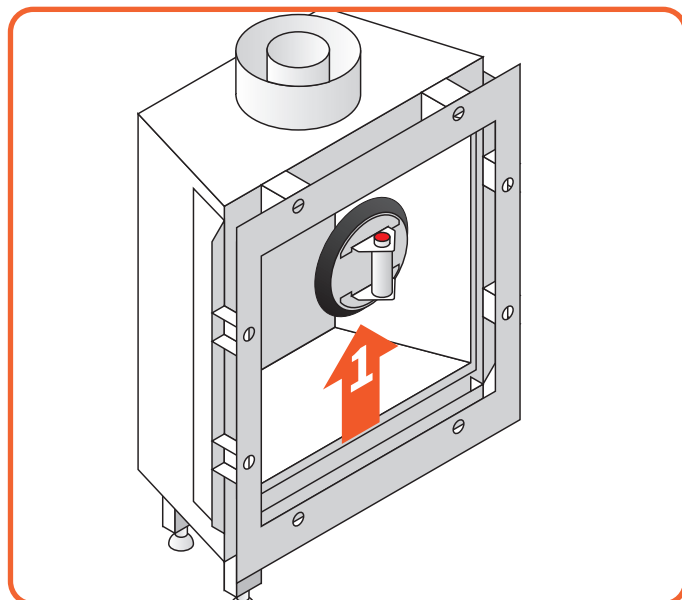
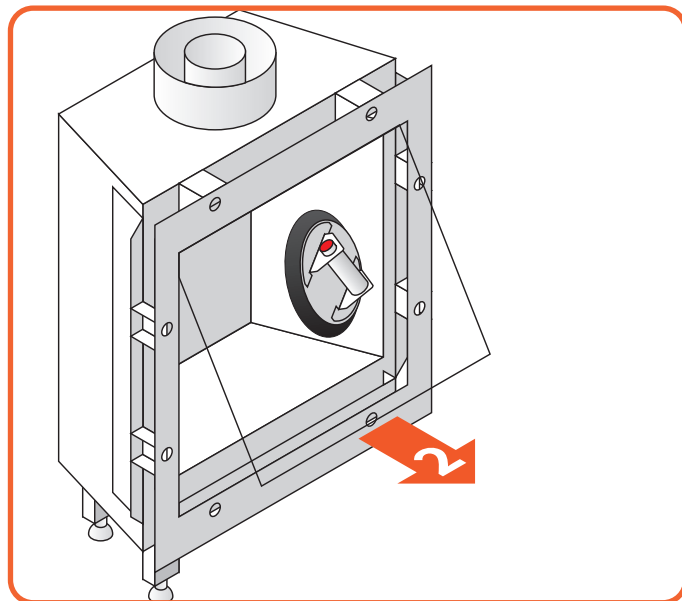

Figure 9.6 | Put on suction cup and lift a bit
Figure 9.7 | Carefully tilt out the glass
- Put the section cup on the glass and make sure it is properly vacuumed, so it will not come off. (See Figure 9.6)
- Lift the glass out of the lower glass rail and tilt it out through the opening, as seen in Figure 9.7.
For the maintenance of the burner different parts can be distinguished, all mentioned below. See **Figure 9.6** and **Figure 9.7** and **Table 9.2** for more info.
The pilot flame must be visually checked. The pilot flame must always be present when the appliance is in operation and should appear as shown in **Figure 9.7**.